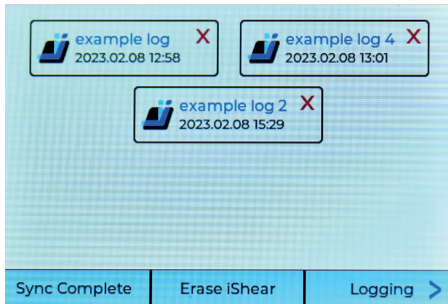

Figure 23
4. When the display is done Syncing the 'Sync Logs' button will change to 'Sync Complete' (see Figure 23.)